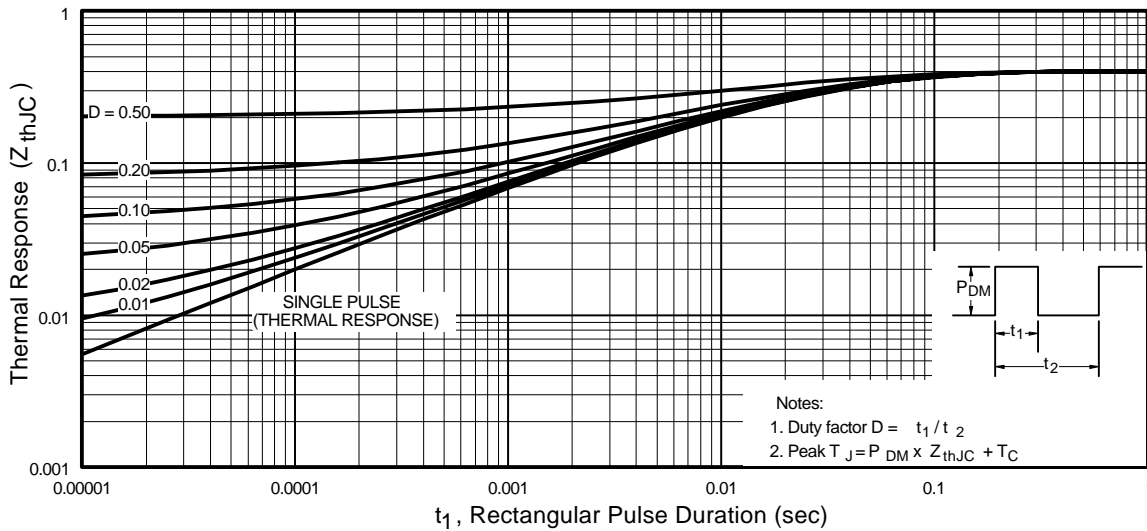

Fig 11. Maximum Effective Transient Thermal Impedance, Junction-to-Case
- ① Repetitive rating; pulse width limited by max. junction temperature. (See fig. 11).
- ② Starting $T_J = 25^\circ\text{C}$, $L = 0.21\text{mH}$
$Z_{thJC}(D, t_{av})$ = Transient thermal resistance, see figure 11)